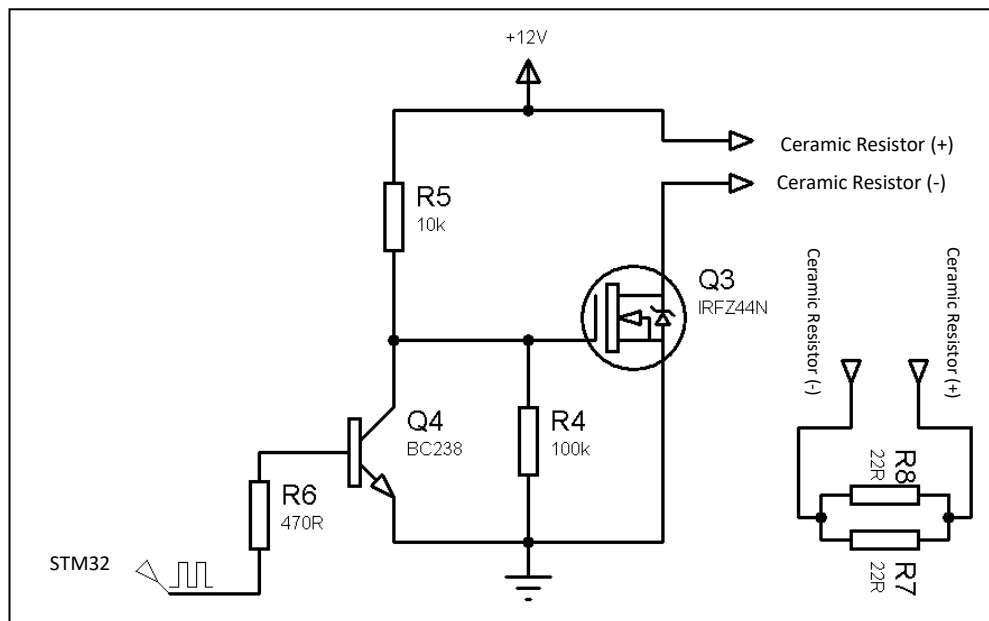

Figure 2: Circuit diagram of heating mechanism
4. Circuit diagram for heating mechanism is given in Figure 2.